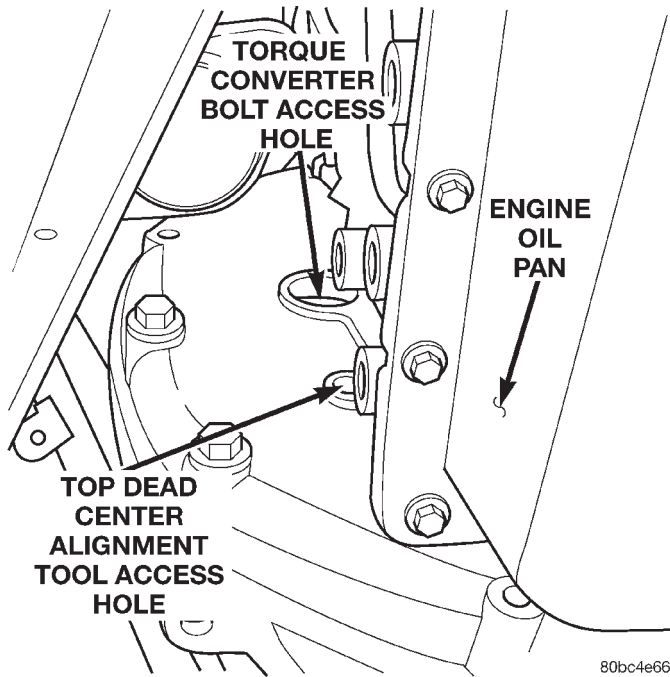

Fig. 35 Top Dead Center Alignment Tool Access Hole
(11) Set the dial indicator to 0 mm. Be sure the tip of the dial indicator is touching the tip inside the adapter tool.
(12) Rotate the crankshaft clockwise until the alignment tool can be reinstalled in the flexplate (Fig. 35).